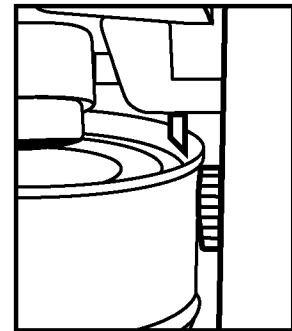

Figure 2
- 3 Place the can so that the lower edge of the can lip rests on top of the drive wheel. Be certain that the cutting blade is on the inside of the can lip as shown in figure 2.